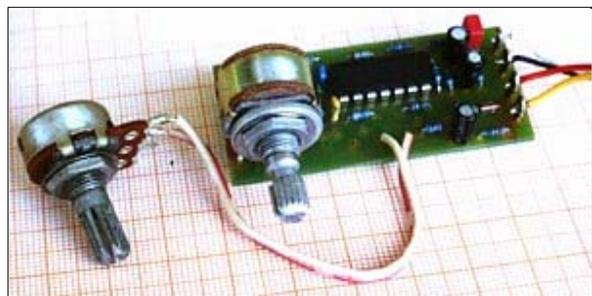

Fig.7. Active electronic circuit that acts as a second-order low-pass- filter and imitates the sound characteristics of many different guitar and bass pickups
4. Install an active electronic circuit that acts as a second-order low-pass filter. This will give you the possibility to adjust the resonant frequency and the resonance height continuously with potentiometers, instead of only in discrete steps. So you can imitate the sound characteristics of many different guitar and bass pickups. These circuits are called „State Variable Filter“. The first instrument manufacturer to apply this was Alembic since the seventies, later it was copied by others. Completely mounted circuit boards of this kind, fitting into most common instruments, are available from the author (Fig. 7). They need a 9 V battery for supply, and on some instruments some space inside the body that must be routed.